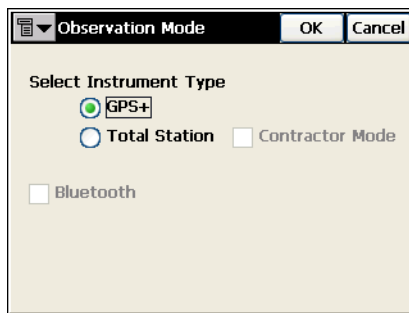

Figure 3-1. Observation Mode
1. Select **Job ▶ Mode** and choose the survey mode, GPS+ or Total Station, then tap **OK** (Figure 3-1). Choose Contractor Mode in Total Station survey mode for use by non-surveyors for Topo and Stakeout with total stations. Choose Total Station survey mode to configure a Level survey.